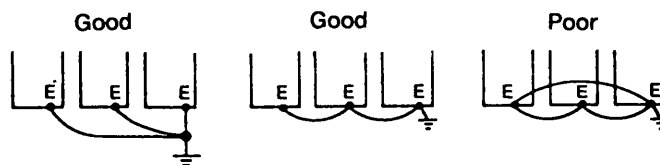

Fig. 6.3 Grounding of Three VS-626MTII Units
(3) Make a positive grounding using ground terminal (E) on the casing of VS-626MTII.
- Even when VS-626MTII is grounded through its mountings such as channel base or steel plate, be sure to ground VS-626MTII using the ground terminal (E).
- Where several VS-626MTII units are used side by side, all the units should preferably be grounded directly to the ground poles. However, connecting all the ground terminals of VS-626MTII in parallel, and ground only one of VS-626MTII to the ground pole is also permissible (Fig. 6.3). However, do not form a loop with the ground leads.